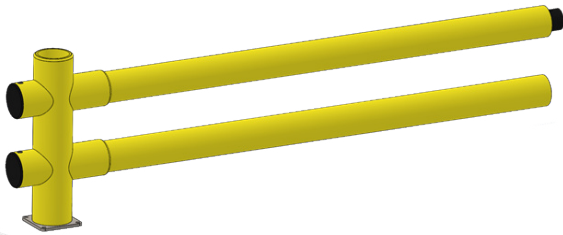

Figure 4. Installation of section elements into the finite post
1. Insert the lower and upper elements of the section into the finite post (Fig. 4). The axes of the through circular 20 mm holes in the black pipe of the upper section element both here and hereafter must be placed vertically. The installation of the upper section element into the post must be carried out so that the circles of through 20 mm holes in the black pipe of the section are located tangentially to the inner surface of the male pipe of the post (shown in Fig. 5 by blue lines). The barrier can be supplied with either black square or yellow round vertical male pipes inside the finite and connecting posts. This does not affect either the operational characteristics of the barrier, the assembly features, or the appearance.